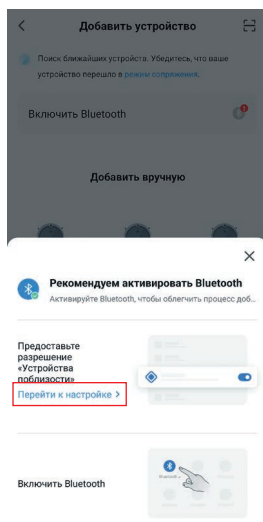

Fig. 2
- Grant the App permission «**Devices Nearby**» (fig. 2). Press «**Proceed to setup**» and follow the further instructions.